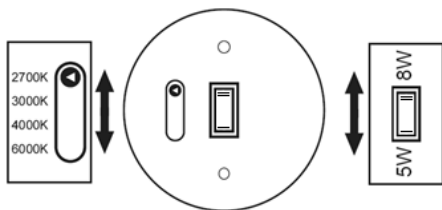

Fig. 4
- Select the desired wattage and colour temperature via the switches on the back of the downlight (see Fig. 4)